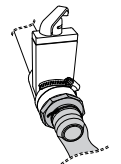

Figure 13.2i
7. Screw in the adapter with hose that was included in the equipment bay; attach it to the QuickDrain, Figure 13.2i. Make sure to direct the hose to an area where the water will drain properly.